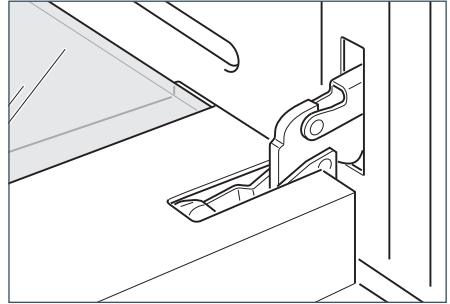

Fig.58a
- Fully open the oven door (Fig. 58a).
- 1 Make sure the door is locked open (see Figs. 58a - 58c).